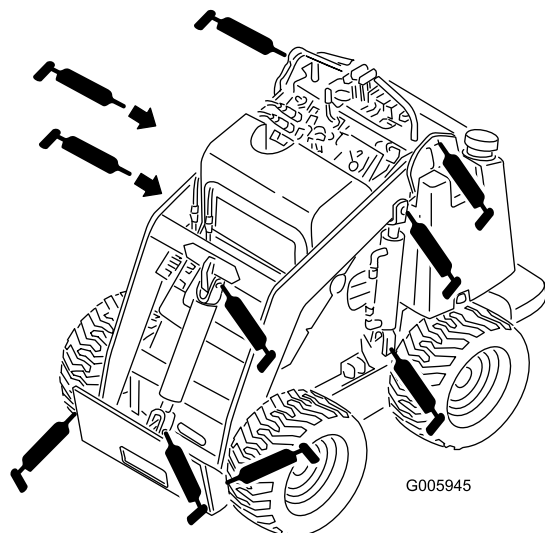
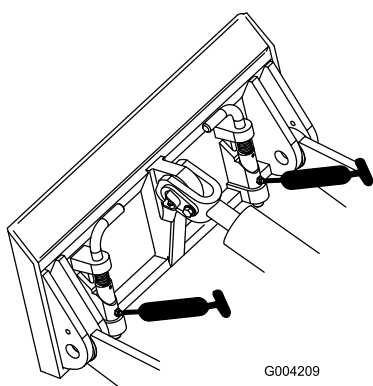

Figure 26
Figure 27
3. Connect a grease gun to each fitting (Figure 26 and Figure 27).